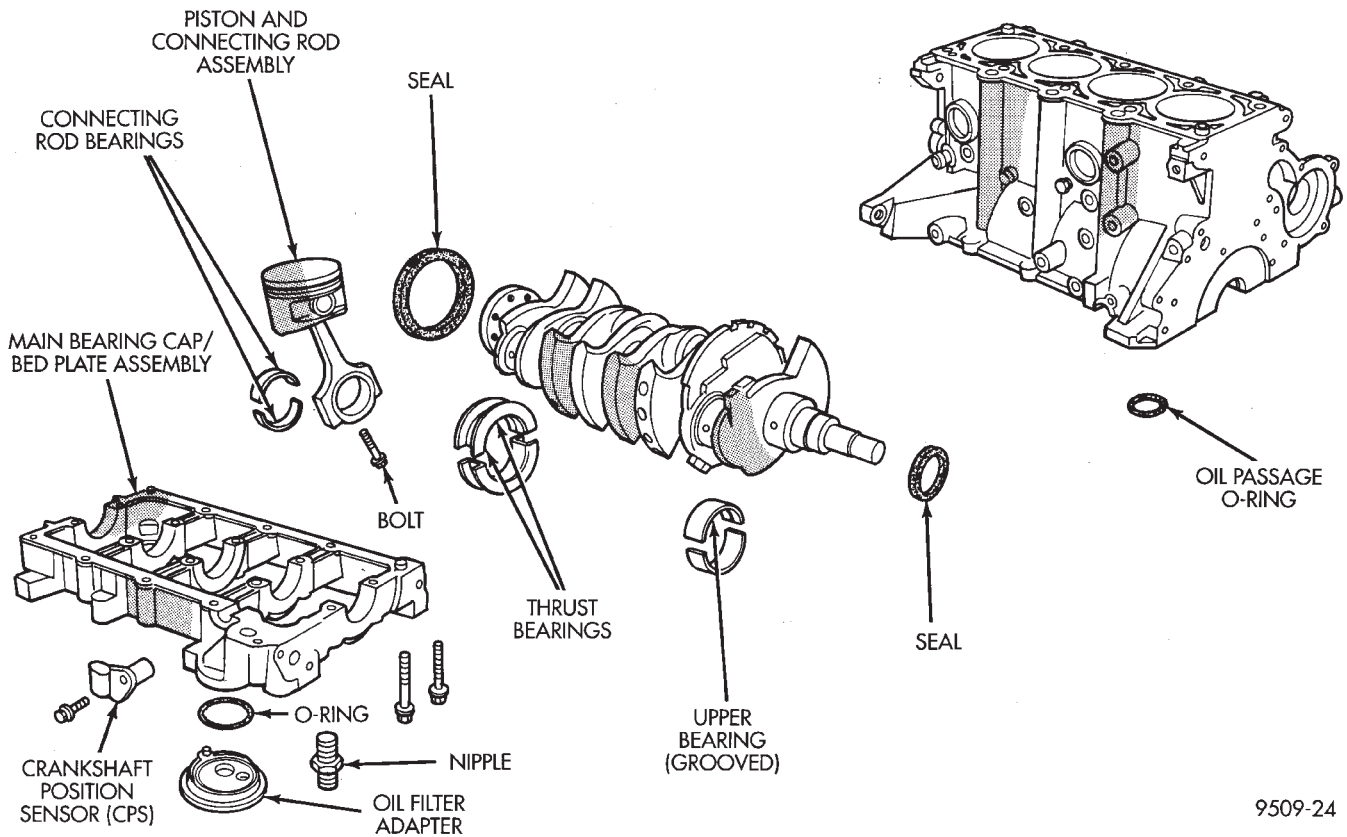
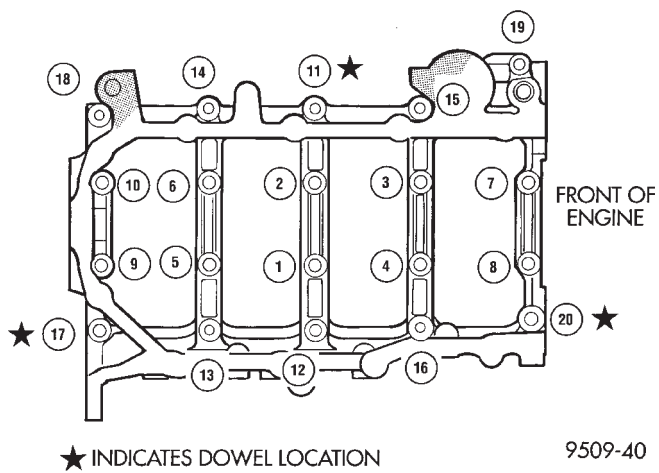

Fig. 101 Cylinder Block and Components
Fig. 102 Bedplate Bolts
- (1) Remove engine assembly. Refer to procedure in this section.
- (2) Mount engine on an engine stand.
- (3) Remove oil filter and adapter from bedplate (Fig. 101).
- (4) Remove oil pan. Refer to procedure in this section.
- (5) Remove crankshaft sprocket and oil pump. Refer to procedures in this section.
- (6) Remove all bedplate bolts from the engine block (Fig. 102).
- (7) Using a mallet tap the bedplate loose from the engine block dowel pins.
(14) Install oil filter adapter (Fig. 101) and oil filter.
(15) Install engine assembly. Refer to procedure in this section.